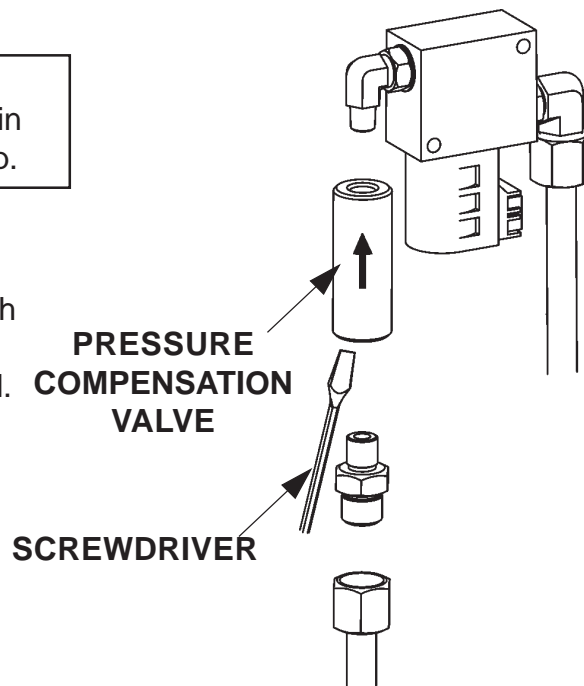

FIG. 5B
3. Lower the Platform to the ground and remove the Pressure Compensation Valve (**FIG. 5B**) located at the top of each Column. Check if Pressure Compensation Valves are contaminated. Disassemble, try to move plunger with small screwdriver, and then clean each valve if required (**FIG. 5B**). Re-install or replace each Valve if necessary.